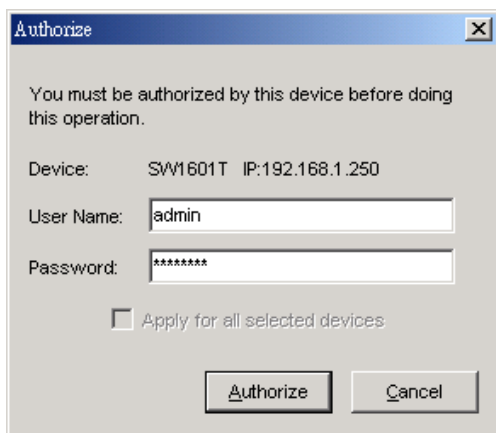

Figure 5 Authorize page
- (4) Click “**OK**” to configure the setting, and it will pop-up Authorize page, one may input the password and then click “**Authorize**” button to make the setting effective (Figure 5).